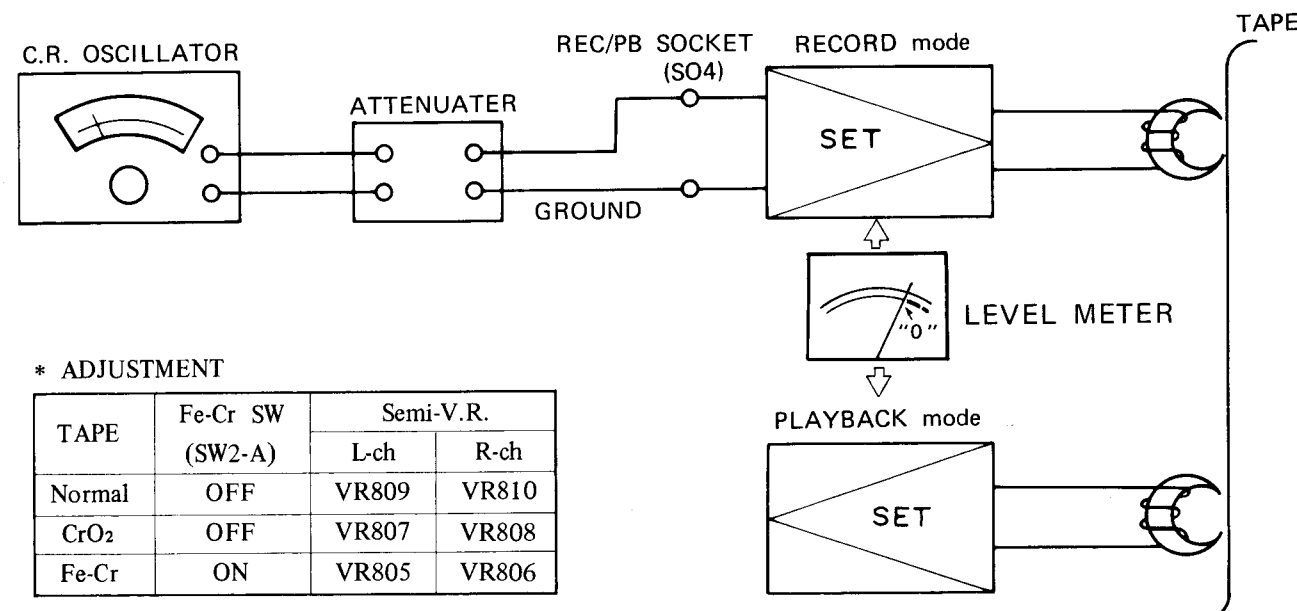

Figure 32
■ RECORD AND PLAYBACK SENSITIVITY ADJUSTMENT (Refer to Figures 32 and 41)